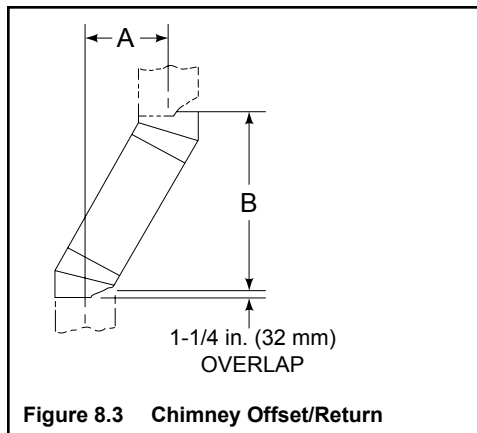

Figure 8.3 Chimney Offset/Return
- Measure the shift needed to avoid the overhead obstruction. Refer to dimension A in Figure 8.3.
Your "A" dimension from Figure 8.3 is 14 1/2 in. (368 mm). Using Table 8.2 the dimension closest to, but not less than 14 1/2 in. (368 mm) is 15 3/4 in. (400 mm) using a 30° offset/return.